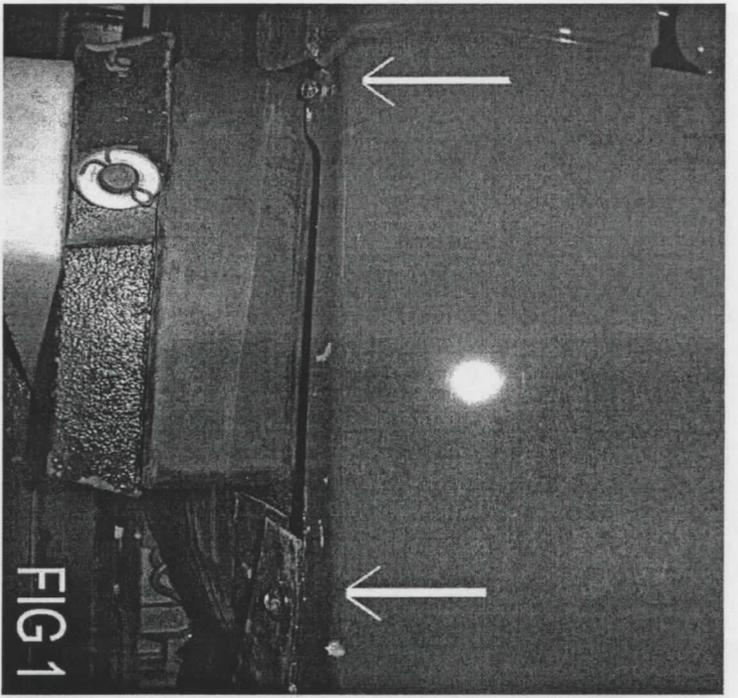

FIG 1
2. STARTING ON THE RIGHT SIDE OF THE CAR LOCATE AND REMOVE THE TWO FACTORY SCREWS LOCATED ON THE UNDERSIDE OF FRONT FENDER. SET ASIDE TO BE REINSTALLED LATER. **(FIG.1)**